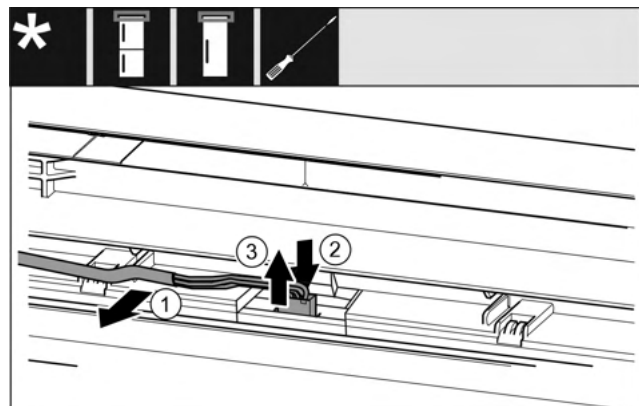

Fig. 22 Fridge/freezer combinations/freezers/cooling units
- ▶ Carefully loosen the cable *Fig. 22 (1)* from the guide in the door.
- ▶ Press back the tab *Fig. 22 (2)* behind the plug.
- ▶ Pull the plug *Fig. 22 (3)* upward carefully.